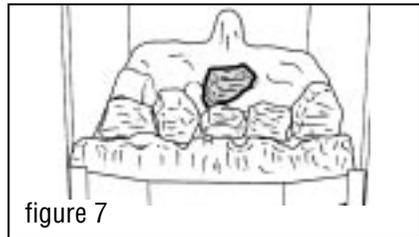

figure 7
- 5 Place a loose coal behind the central coal in the front row central and resting on the two peaks of the rear base coal. See figure 7.